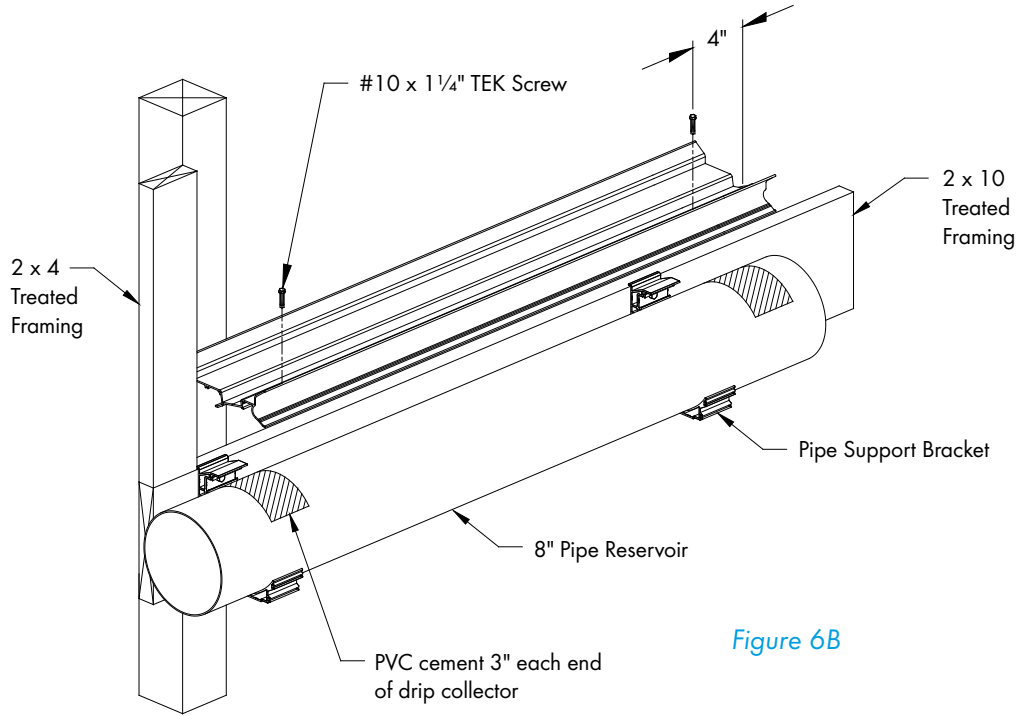

Figure 6B
Carefully lift end of Drip Collector off 8" Pipe. Prime and PVC cement a 3" wide area on 8" Pipe, at both ends of Collector. Replace drip collector on the 8" Pipe, keeping it level. Fasten each end of Collector to 8" Pipe using (1) #10 x 1/4" TEK Screw located 4" from each end. See Figure 6B and 6C.